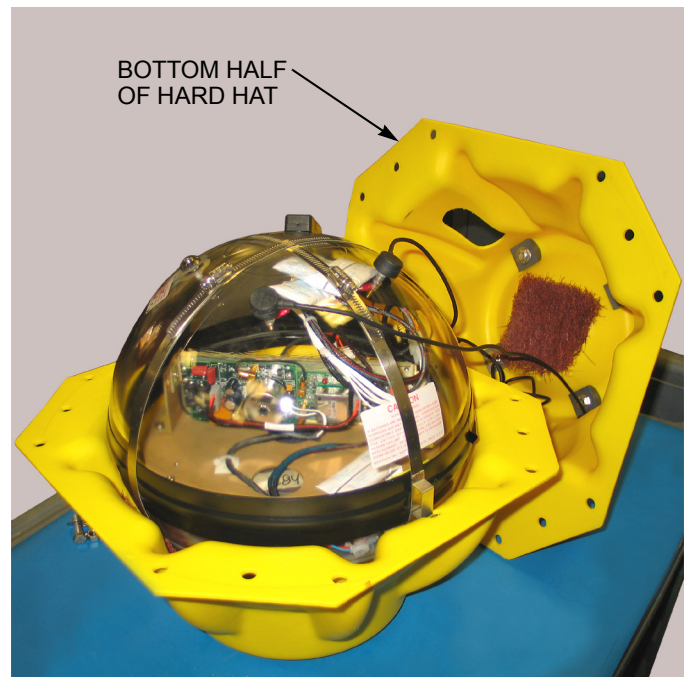

Figure 4-2 Removing the Bottom Half of the Hard Hat
4. Remove the bottom half of the hard hat, the half that includes the attached release mechanism, as shown in Figure 4-2.